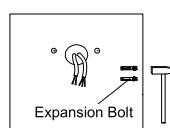

figure 9
- Step 2: Knock the expansion bolts into the wall.(Figure 9)